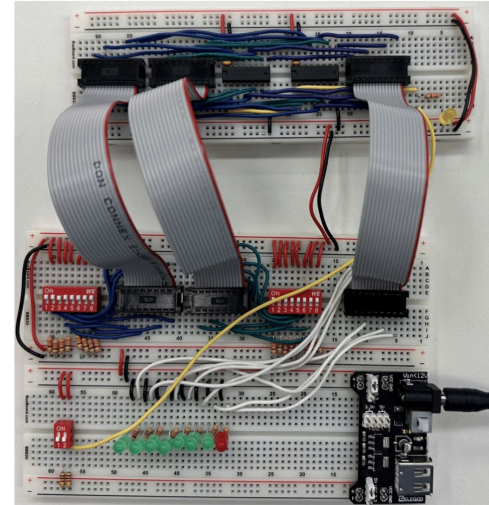

Figure 16: Bus MUX circuit connected to the tester circuit.
- Finally, connect the power and ground rails of the tester circuit to the rails of the breadboard with your MUX circuit (see Figure 16). This will ensure that both circuits are powered.